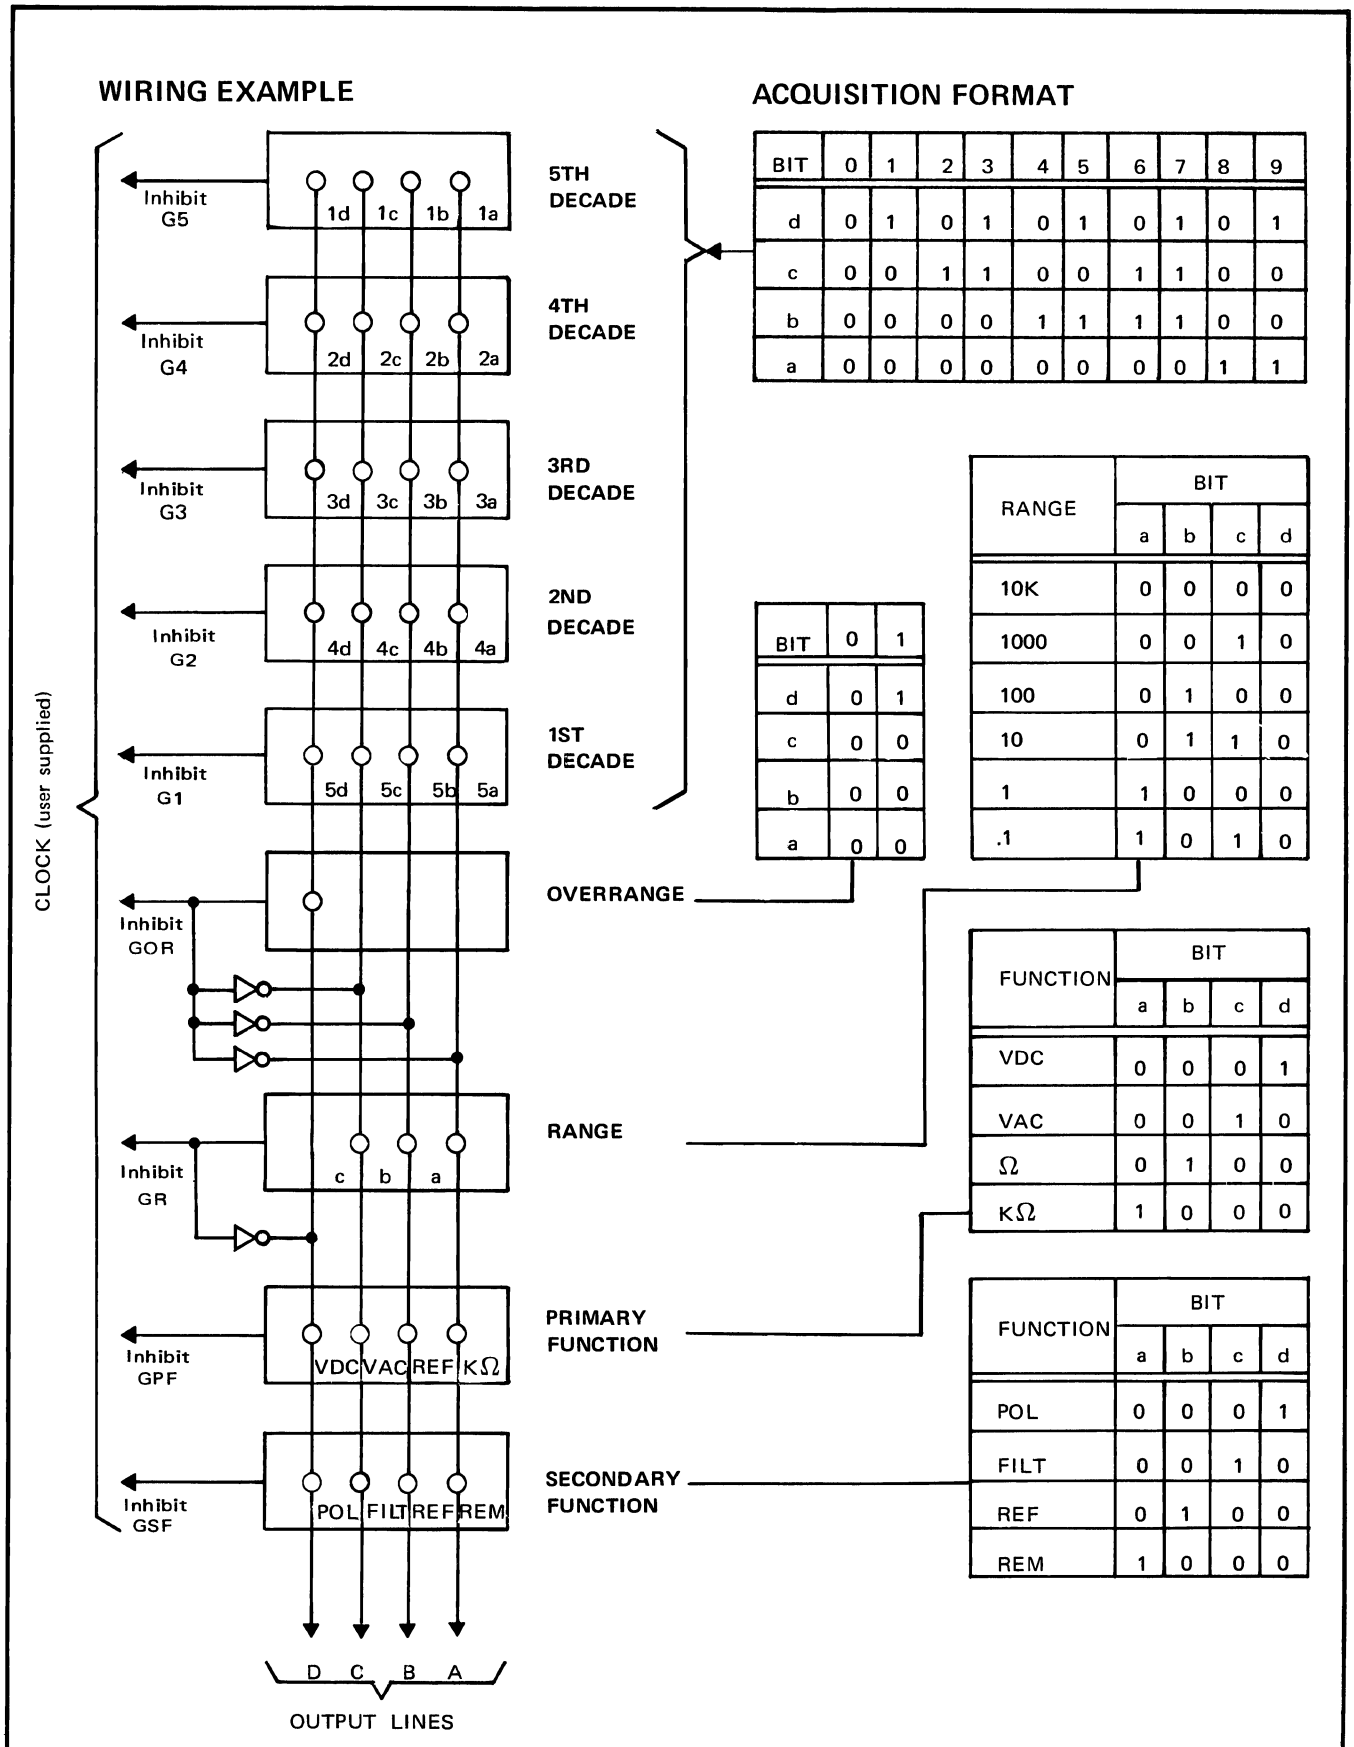

Figure 2-8. WIRING EXAMPLE, ACQUISITION FORMAT, AND TRUTH TABLES FOR SERIAL CHARACTER, PARALLEL BIT ACQUISITION
- b. Connect function, range, polarity, and digit outputs in parallel, as shown in Figure 2-8 or in groups of 8, 12, 16 bits, etc., as desired.
- c. User supplied clock controls inhibit lines to determine the sequence of character acquisition. Data is transferred to the output lines when the associated inhibit lines are high. Truth tables and acquisition format are also shown in Figure 2-8.